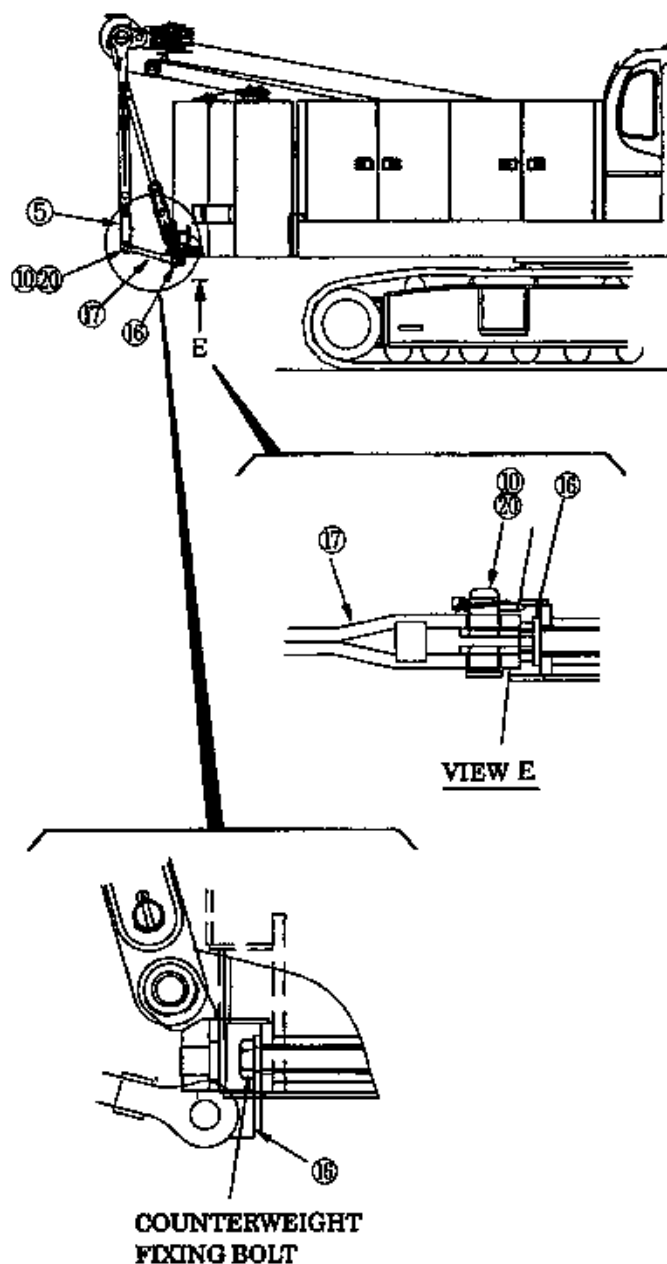

Fig 5-26
2. WHEN ALL THE TWO COUNTERWEIGHTS ARE EQUIPPED (SEE FIG. 5-26)
- (1) Lower the gantry to the lowest end (low gantry position) by gantry lifting cylinder operation.
- (2) Fix the link ⑰ to the link ⑤ with the pins ⑩ and ⑳. Fix the link ⑮ to the counterweight with the counterweight fixing bolt. Then, fully retract the right and left lift cylinders ① by operating the control box while keeping a balance of right and left (Fig. 5-26).